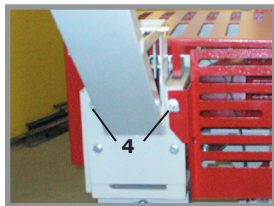

Fig. 4
Install the infeed chute on the processor using the two hex nuts (4) supplied with the machine by the manufacturer (see figure 4).